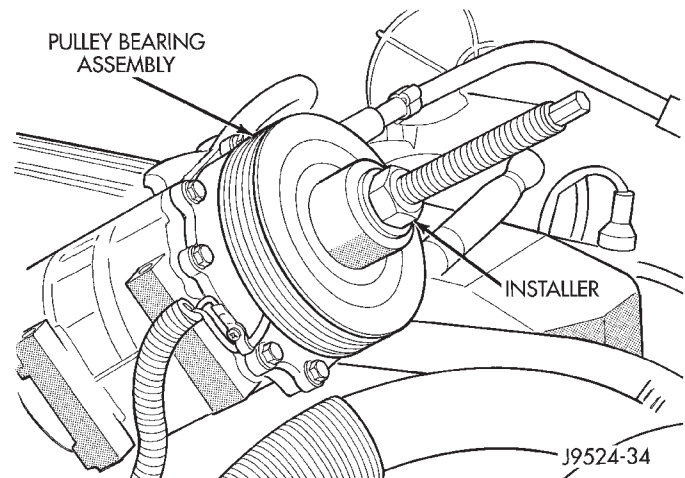

Fig. 11 Pulley Installer
- (1) Install field coil and snap ring.
- (2) Install coil harness retaining clip on compressor and tighten the retaining screw.
- (3) Align rotor assembly squarely on the front housing hub.
- (4) Install pulley bearing assembly with Installer 6871 (Fig. 11).